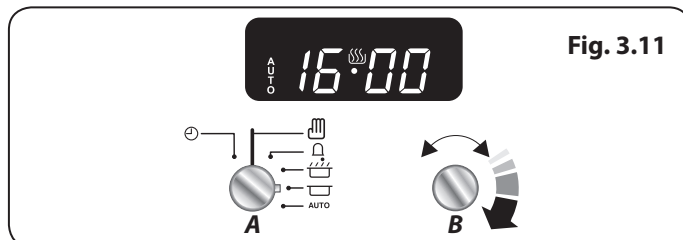

Fig. 3.11
3. Turn the **Adjusting (B)** knob to set the time of day you want the oven to stop cooking (**Fig. 3.11**).